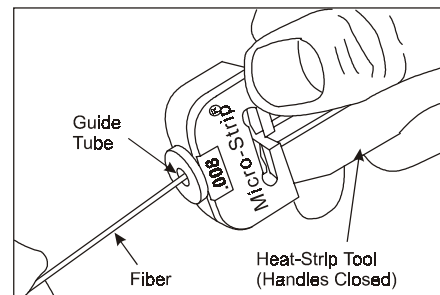

Figure 4. Heat-Strip Tool - Removing Fiber Coating from Buffered Fiber
4. **REMOVE FIBER COATING** With the stripper handles open and the buffered tube aligned with the end of the fiber, insert both fiber and buffer tubing through the guide tube opening enough to allow about 0.75 inch (19.0 mm) of buffer and fiber coating to be removed (Figures 4 and 5).